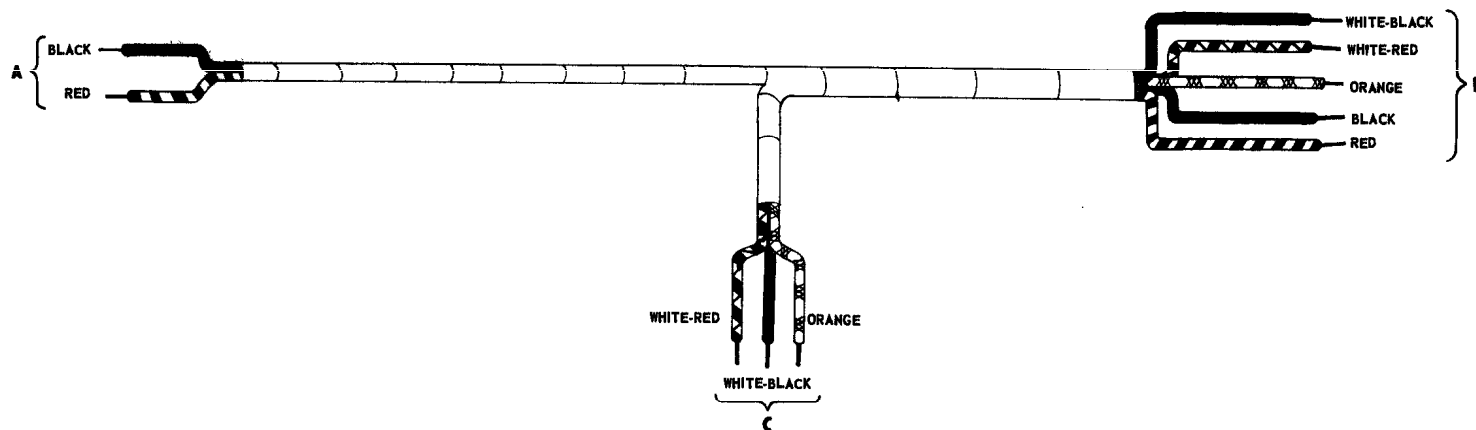

Figure 20. Small Wiring Harness.
- ☐ 50. Lay out the small harness so it appears as in Fig. 20. Identify the various branches and wire colors.
- ☐ 54. Route the white lead with red tracer of branch C to lug 2 of tie strip TS-2. Trim to length and remove $\frac{1}{4}$ " insulation from the end. Connect to lug 2 of TS-2. (NS).